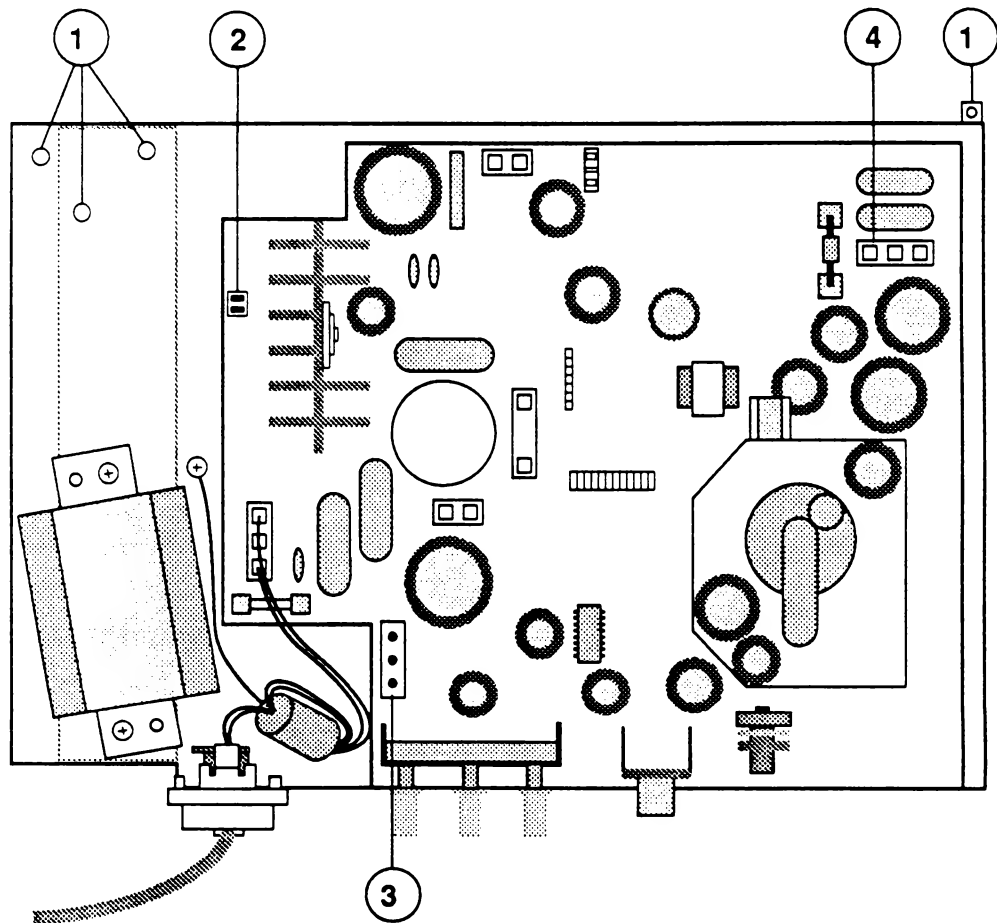

FIGURE 4
4. Unscrew the four screws (Figure 4, #1) that fasten the main logic board assembly to the CRT mounting plate.
7. Disconnect the pink/white LED wire (P5) from its connector (Figure 4, #2).
8. Disconnect the green/yellow yoke wire (P3) from the main logic board (Figure 4, #3).
9. Disconnect the red/blue yoke wires (P4) from the board (Figure 4, #4).